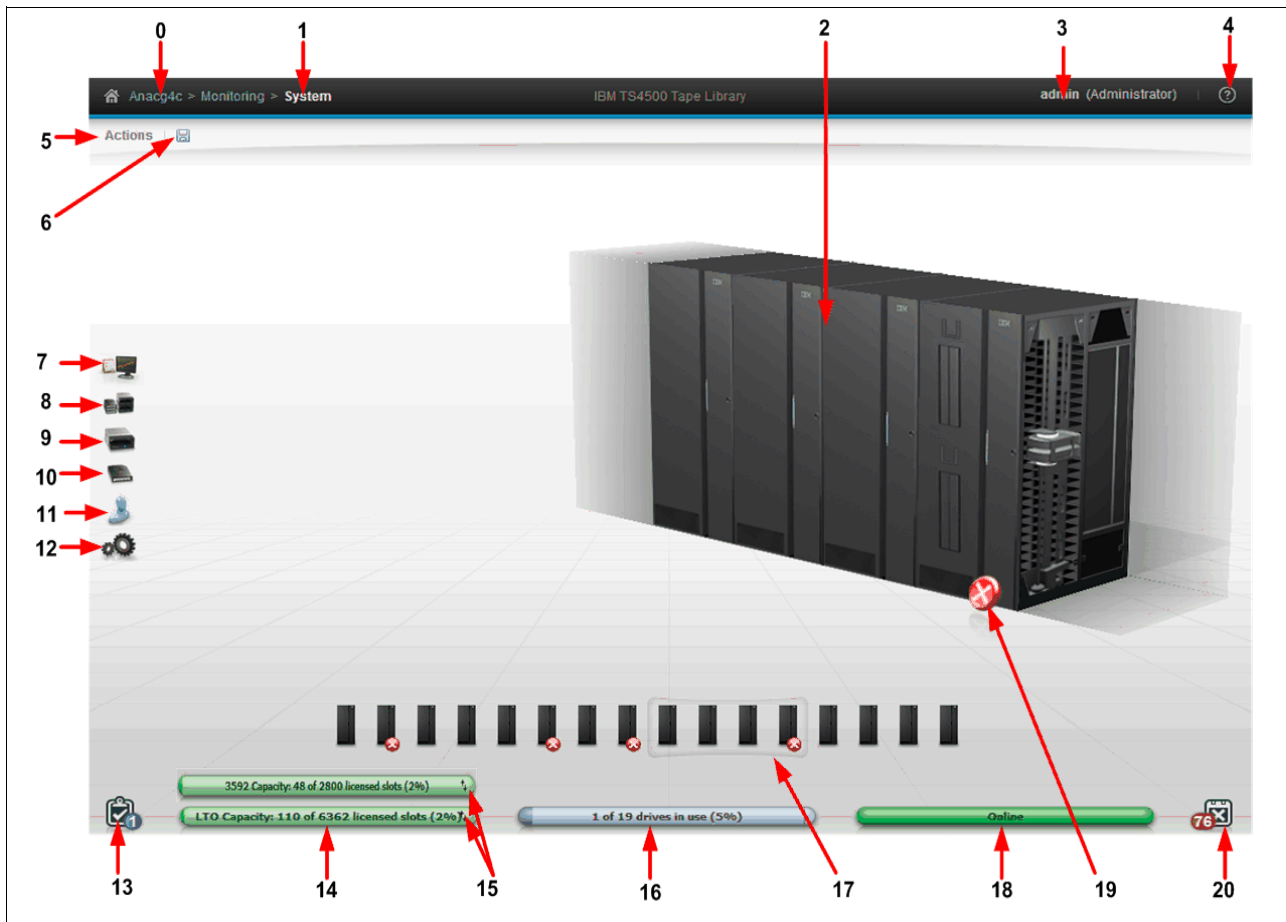

Figure 4-9 System summary display
The system summary window that is shown in Figure 4-9 opens after the login.
For help and information about the Management Interface (MI) and the available functions, use the question mark (?) icon or Help, which is number 4 on Figure 4-9 on page 155.
Table 4-3 explains all of the fields that are shown on the window. The numbers refer to Figure 4-9 on page 155.